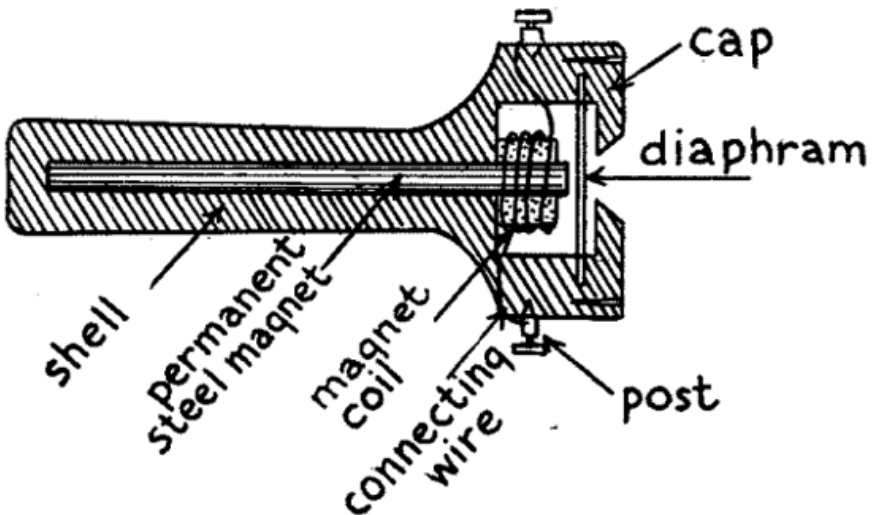

FIG. 62.—Cross-section of Bell Telephone Receiver.
How a Bell Telephone Receiver Is Made.--An ordinary telephone receiver consists of three chief parts and these are: (1) a hard-rubber, or composition, shell and cap, (2) a permanent steel bar magnet on one end of which is wound a coil of fine insulated copper wire, and (3) a soft iron disk, or *diaphragm*, all of which are shown in the cross-section in *Fig. 62*. The bar magnet is securely fixed inside of the handle so that the outside end comes to within about $1/32$ of an inch of the diaphragm when this is laid on top of the shell and the cap is screwed on.
How the Headphones Work.--As you will see from the cross-sections in *Figs. 62 and 63* there is no connection, electrical or mechanical, between the diaphragm and the other parts of the receiver. Now when either feeble oscillations, which have been rectified by a detector, or small currents from a *B* battery, flow through the magnet coils the permanent steel magnet is energized to a greater extent than when no current is flowing through it. This added magnetic energy makes the magnet attract the diaphragm more than it would do by its own force. If, on the other hand, the current is cut off the pull of the magnet is lessened and as its attraction for the diaphragm is decreased the latter springs back to its original position. When varying currents flow through the coils the diaphragm vibrates accordingly and sends out sound waves.